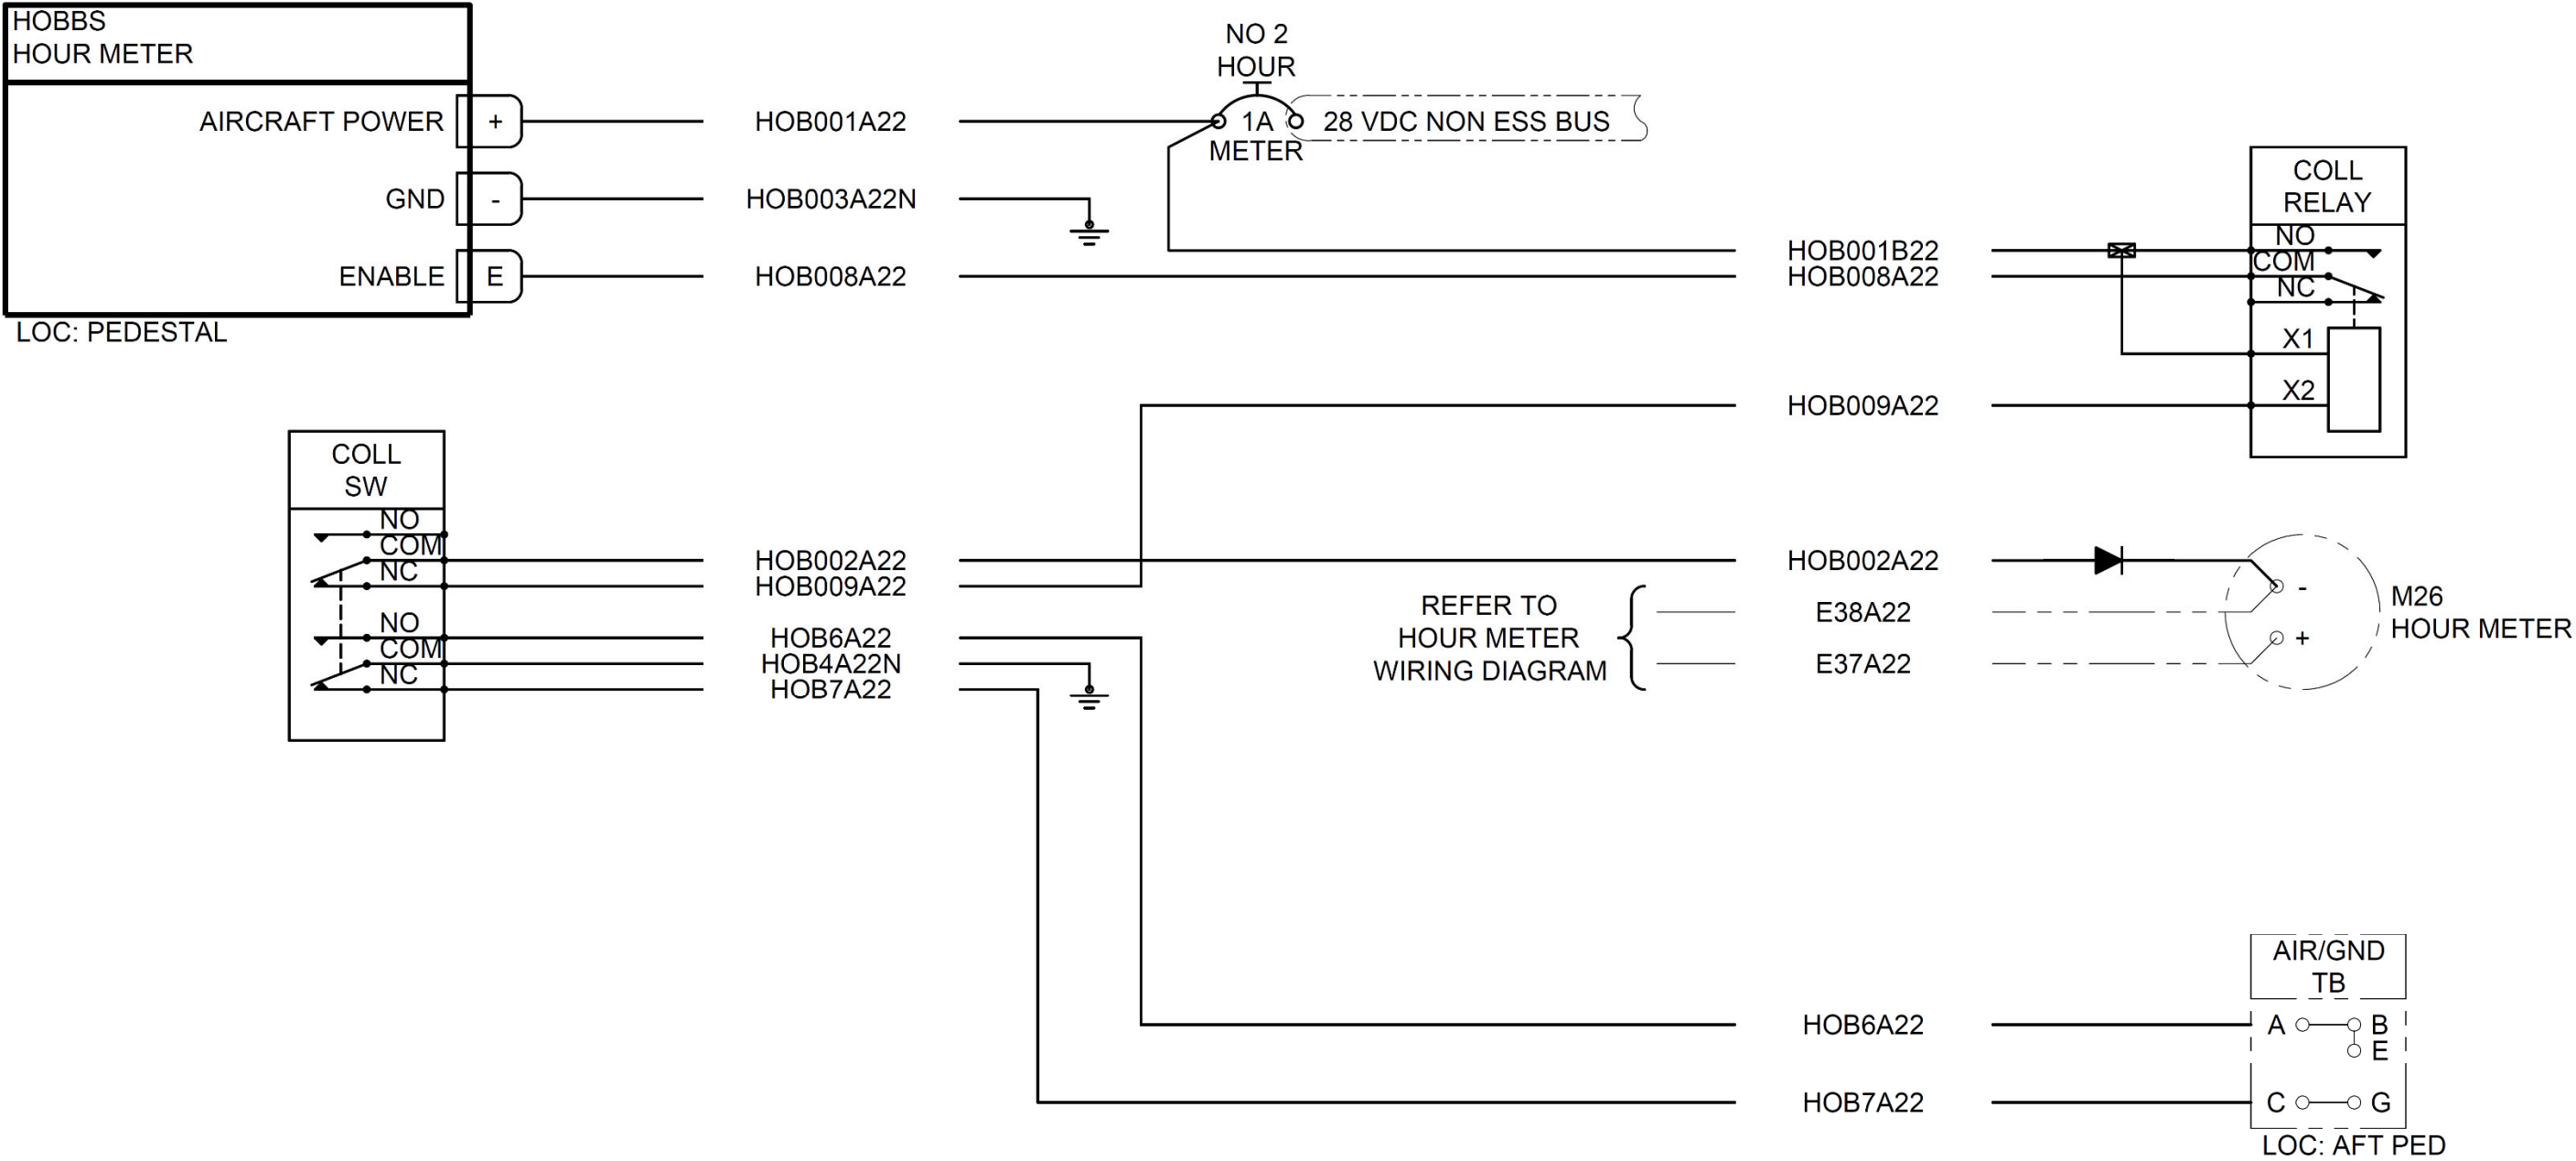
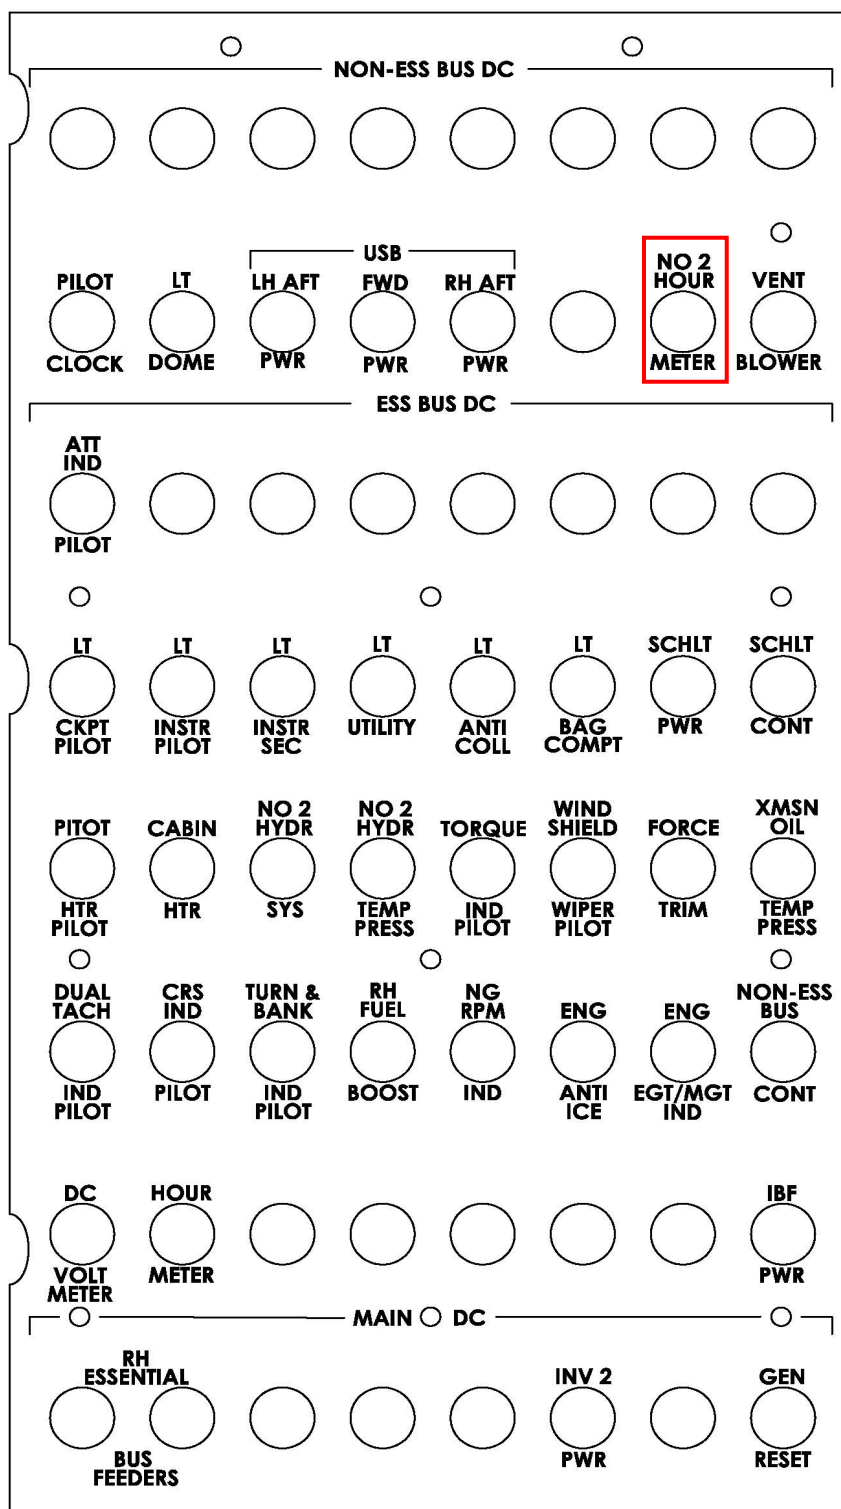

Figure 2 – Second Hour Meter Installation Wiring Diagram (-011/-015 Configuration - with flight timer)
Figure 6 – CB Installation Overhead Panel, RH
3. Install circuit breaker (P/N: M22073-1) in accordance with Figure 6. The circuit breaker can be installed on the Overhead Circuit Breaker Panel, RH Non-Ess Bus DC, see Figure 6. Label CB "NO 2 HOUR METER" IAW Figure 2.
4. Install wiring in accordance with Figure 2, as applicable.
3. Ensure that all cables are properly secured in accordance with Figure 2.